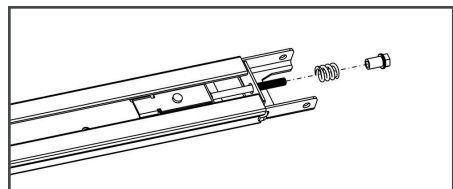

FIGURE 10
4. Tighten the nut to the right position as shown in Fig.10, cut the plastic tape, cut the plastic thread on sprocket, then rail assembly is finished.